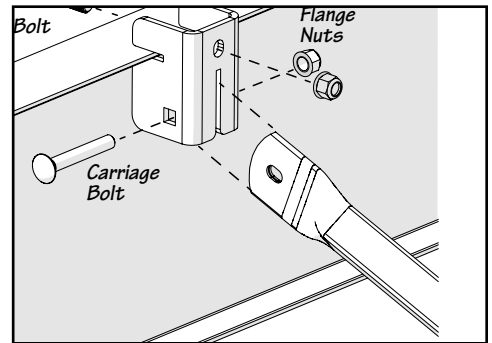

Fig. 4-2
- Slide the beam clamp over the "J" bolt end passing through the top of the beam clamp and slide the clamp over the I-beam frame as shown in Fig. 4-2. Attach flange nut over the "J" bolt and loosely tighten nut.
- Align/insert the lateral strut end in the mounting slot on the bottom of the beam clamp as shown in Fig. 4-2.